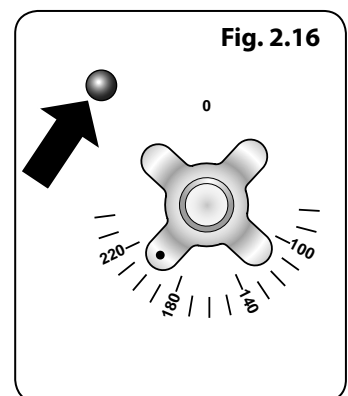

Fig. 2.16
2. The oven indicator light will glow until the oven has reached the temperature selected. It will then cycle on and off during cooking (**Fig. 2.16**).